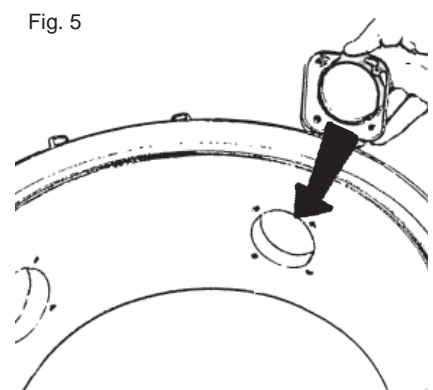

Fig. 5
4. Adapt (move) the suction pipe socket to the new outlet. NB! The socket is marked "Up". Make sure the socket is fitted with "Up" uppermost. Fasten the socket by fitting and tightening the four screws, Fig. 5.